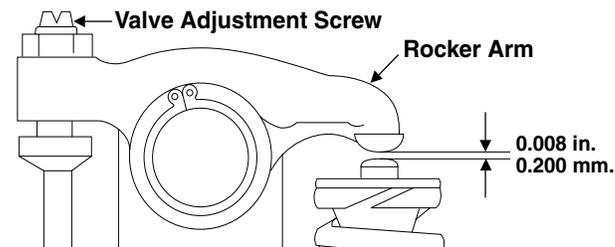

Figure 8: Valve Adjustment
4. Loosen the lock nut and adjust the clearance between the rocker arm and valve guide of both the intake and exhaust valves with the adjustment screw (Figure 8). Clearance on both intake and exhaust valves should be 0.008 in. (0.2 mm).